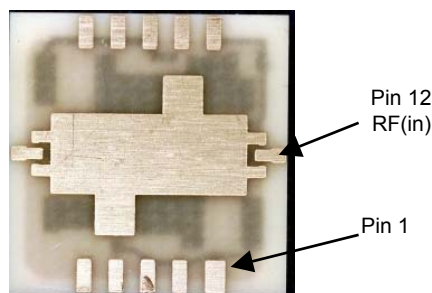

Figure 2: Bottom View
3. Manually place a TGA8652-EPU on the motherboard with correct orientation and good alignment. The alignment can be determined manually by centering the package on the motherboard. The RF traces (pin 6 and pin 12) are located along the center horizontal axis of the package. DC traces pin 3 and pin 9 are located along the center vertical axis of the package. (Fig. 2)